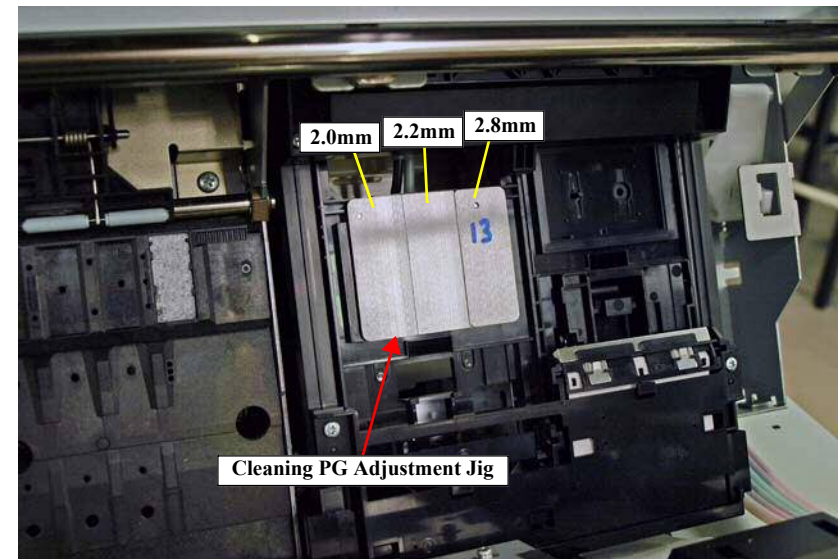

Figure 5-21. Position for the Jig
9. Set the Cleaning PG Adjustment Jig to the position shown in Figure 5-21.
18. Set the Cleaning PG Adjustment Jig to the position shown in Figure 5-21.